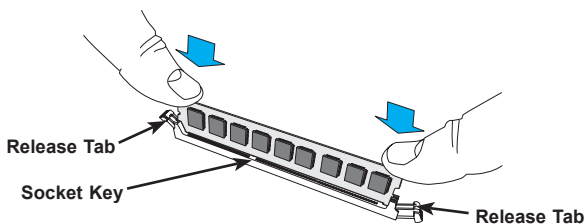

Figure 5-3. Installing DIMM into Slot
5. Press the release tabs to the lock positions to secure the DIMM module into the slot. See Figure 5-3.